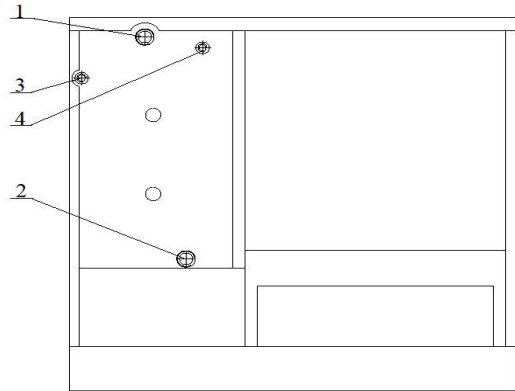
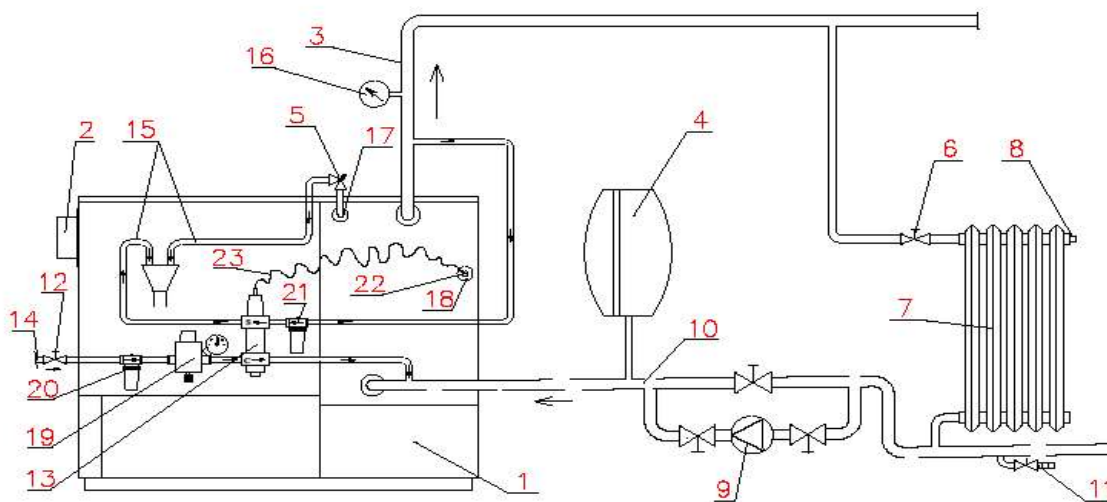
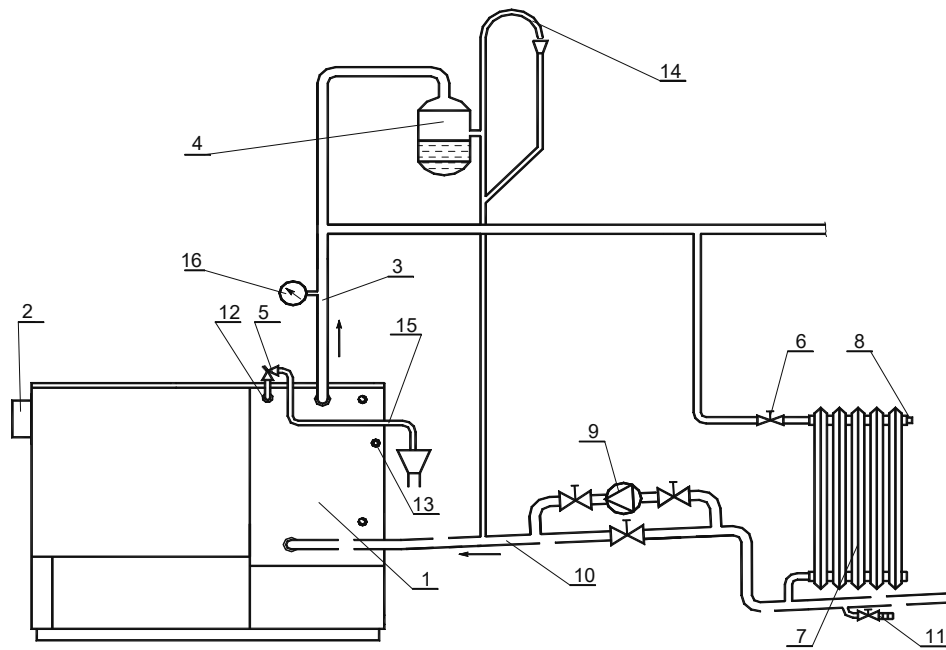

Figure 4
Figure 7
Figure 8
- safety valve (Fig. 7 and 8, Item 5) which MUST be installed on an R1/2" connection (Fig. 4, Item 4.)
It can be installed in closed and open heating system. Adhere to the regulations JUS M.E7.201 and JUS M.E7.202. Diagrams of closed and open system are shown on fig.7 and fig.8.
The back of the boiler and connections are shown in Fig. 4 where:
6.1 DISCHARGE AND RETURN LINE (fig.4 pos.1 and 2 and fig.7 and fig.8 pos.3 and 10)
1. Thermal valve with built-in thermal protection type 544, 1/2", product Caleffi (Fig. 7a) and Fig. 7, Item 13.
2. Slope pressure regulator with manometer 1/2", the same or similar as shown in Fig. 7b and Fig. 7, Item 19.
3. Filter for cold water at the input of the water supply to the thermal valve, Fig. 7, Item 20
4. Filter for hot - boiling water intake of the boiler and water outlet of thermal valve, Fig. 7, Item 21.
Installation of thermal valve with built-in thermal protection (Fig. 7, Item 13 and Fig. 7a) with additional elements ensuring safe operation, such as pressure regulator (Fig. 7, Item 19 and Fig. 7b). Water filter on the boiler intake (Fig. 7, item 20) and water filter on the boiler outlet in closed central heating system is MANDATORY. This specially refers to a closed system, when the radiators are submerged and where in case of termination of the pump operation for any reason, the water temperature in the boiler rapidly increases and overheating occurs very quickly.
6.2.1 THERMAL VALVE WITH BUILT-IN THERMAL PROTECTION (Fig. 7, Item 13 and Fig. 7a)
The thermal fuse probe (Fig. 7, Item 22) is best to place in the thermal valve connection (Fig. 7, Item 18). It can be placed on the discharge - distribution pipe (Fig. 7, Item 3) but at a distance from the boiler of 500 mm the most or at the highest point of the boiler before the exhaust pipes.
Fig. 7 shows the thermal valve installation diagram.
6.2.2 SLOPE PRESSURE REGULATOR 1/2" WITH MANOMETER (Fig. 7, Item 19 and Fig. 7b)
When installing the thermal valve it is required to mount the slope pressure regulator as shown in Fig. 7, Item 19. The pressure that is maintained by pressure regulator must be set at a higher pressure than the pressure that is in the heating system. If you do not have a higher water pressure of at least 0.8 bar compared to the pressure in the heating system thermal valve will not work or cannot inject cold water into the boiler that needs to be cooled.
6.2.3 WATER FILTER OF THE BOILER INTAKE (Fig. 7, Item 20)
6.2.4 WATER FILTER OF THE BOILER OUTLET (Fig. 7, Item 21)
6.3 SAFETY VALVE (fig. 7 and 8 pos. 5 and fig. 4 pos. 6)
On the back side of the boiler under the hob, a connection R1/2" is welded (fig.4 pos.6) in which you are OBLIGED to set a safety valve. The safety valve should be between 2,5 to 3 bar. It can be installed directly on the terminal or at a distance from the stove of 1m the most, provided that there is no block valve between the boiler and the safety valve.